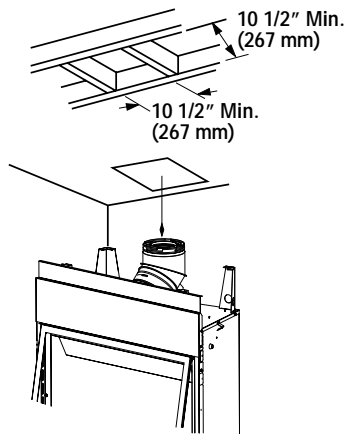

Figure 14
C. Frame ceiling opening - Use a plumb line from the ceiling above the appliance to locate center of the vertical run. Cut and/or frame an opening, 10-1/2" x 10-1/2" (267mm x 267mm) inside dimensions, about this center mark (*Figure 14*).
E. Frame ceiling opening - If the vertical route is to penetrate a ceiling, use plumb line to locate the center above the appliance. Cut and/or frame an opening, 10-1/2" x 10-1/2" (267 mm x 267 mm) inside dimensions, about this center (refer to *Figure 14 on page 11*).